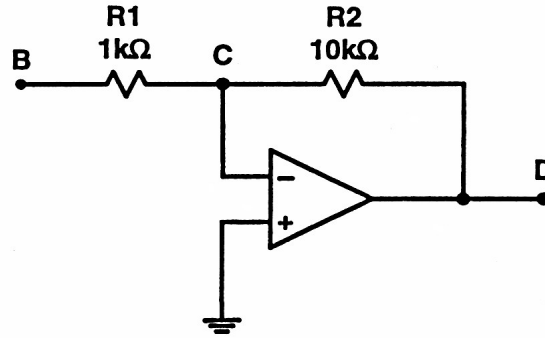

Figure 5: Circuit for Evaluating Slew Rate.
- **Setup:** Assemble the circuit shown in Figure 5.
2. Raise the frequency to verify that the upper 3dB frequency of this circuit, f_5 , is 100 times that in 5.3.1 (2), namely $100f_4$.